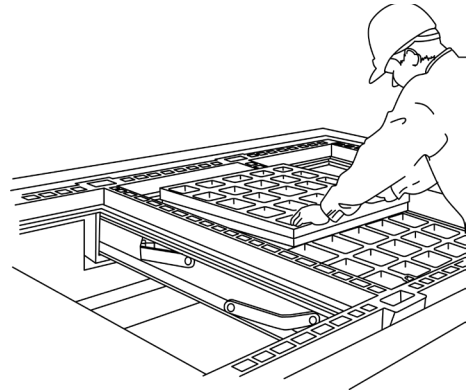

Figure 1
- Clean underside of covers, and the vertical and horizontal seating surfaces of the covers. Select a column of covers located between two central support beams and place the cover into this column at the drawcut end. (Figure 1)